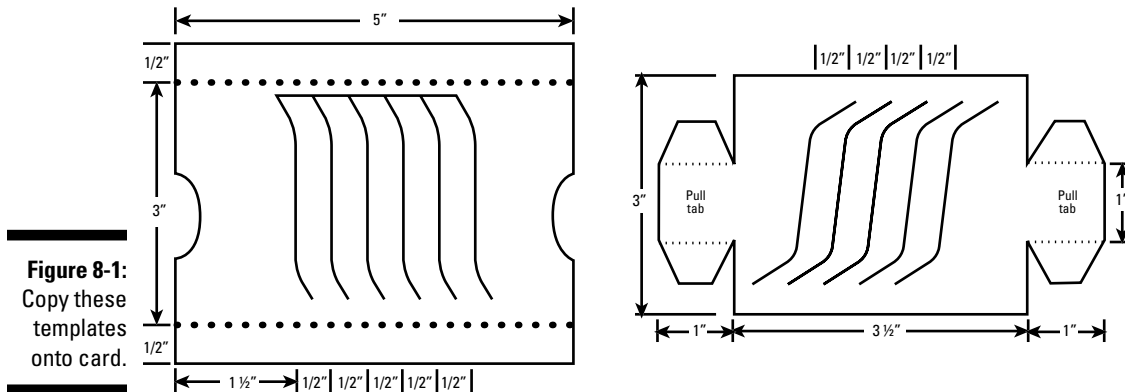

Figure 8-1:
1. Copy the two templates from Figure 8-1 onto thin card.